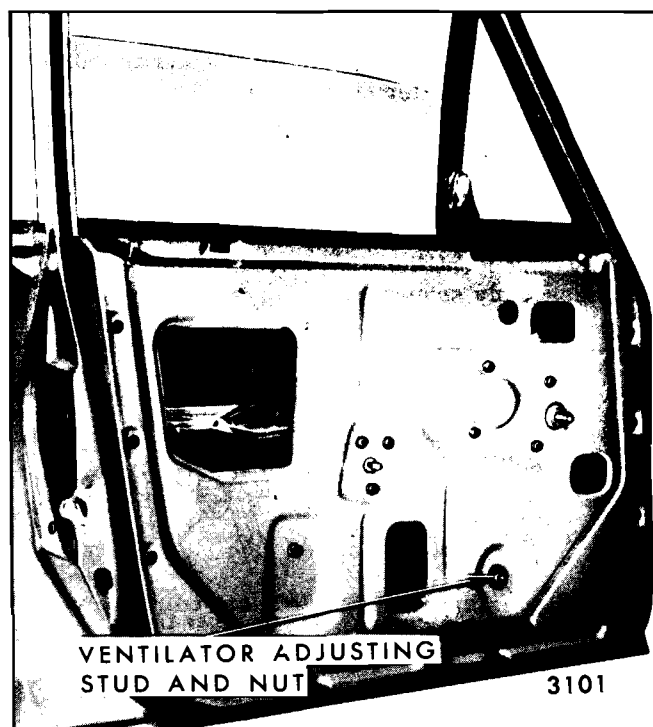

Fig. 6-78—Front Door Window Removal and Adjustment - "A and X" Closed Styles
1. To adjust lower portion of ventilator division channel for proper alignment with door window assembly, lower door window and loosen ventilator adjusting stud nut (Figure 6-78). Turn adjusting stud in or out or position lower end of channel fore or aft as required; then, tighten adjusting stud nut.